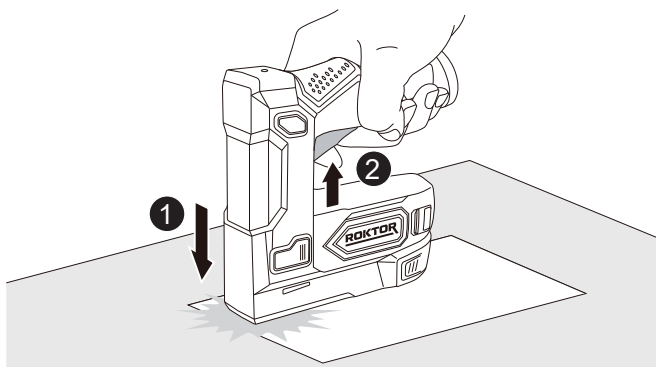

Figure 5
3. USING THE PRODUCT (SEE FIG. 5)